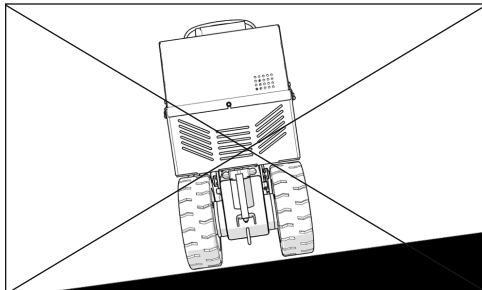

FIG. 2
**WARNING:** MACHINE HAS A SWIVEL FRONT CASTER. NEVER SIDE HILL (FIGURE 2) THE MACHINE ON AN INCLINE WITHOUT POWER, THE FRONT CASTER WILL CAUSE MACHINE TO SWING TO THE LOWEST POINT. IF IT IS NECESSARY TO RUN MACHINE ON AN INCLINE, RUN MACHINE ON CUTTING HEAD. PLACE AT LEAST AN 8" CUTTING HEAD IN MACHINE. TO KEEP FROM DAMAGING FLOOR, CLAMP A PIECE OF CARPET INTO CUTTING HEAD. THIS WILL GIVE POSITIVE CONTACT WITH THE FLOOR WHEN POWER IS DISENGAGED FROM THE WHEELS.